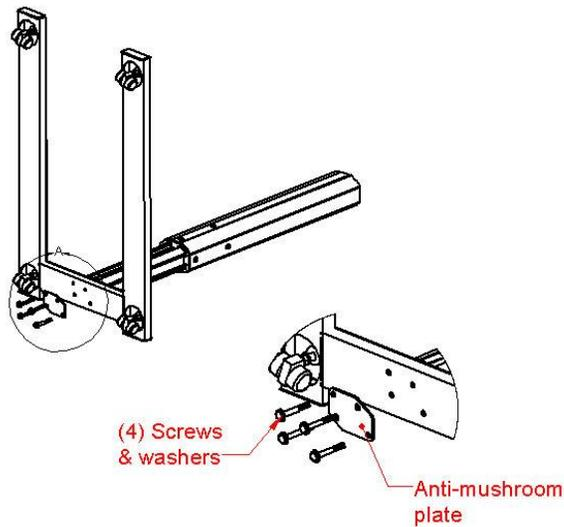

Figure 8
5.6 Remove the base. Place unit on a soft surface such as a blanket or carpet. Remove four bolts, washers & Anti-mushroom plate (Figure 8).
5.10 Attach the Base to the column using the screws, washers & anti-mushroom plate removed in step 5.6 (Figure 8).